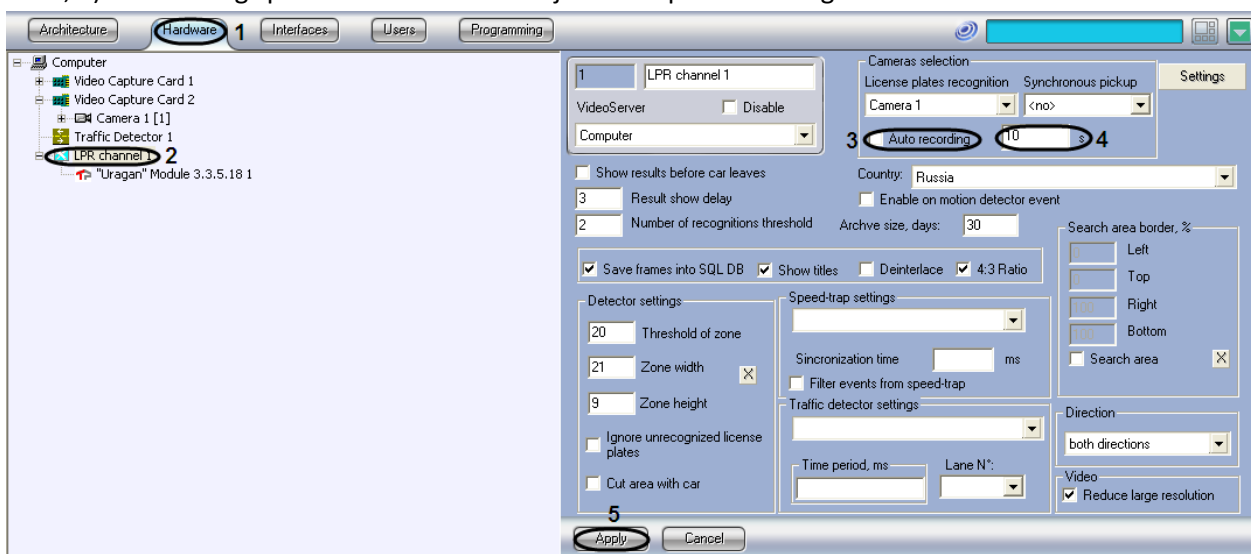

Fig. 7.2-6 Setting up the parameters of automatic video recording
2. Select the LPR channel, corresponding to the activated program module, in the objects tree on the Hardware tab (see. «Program module activation, used for Plates identification», see Fig. 7.2-6, 2). The settings panel of the selected object will open on the right side of the window.